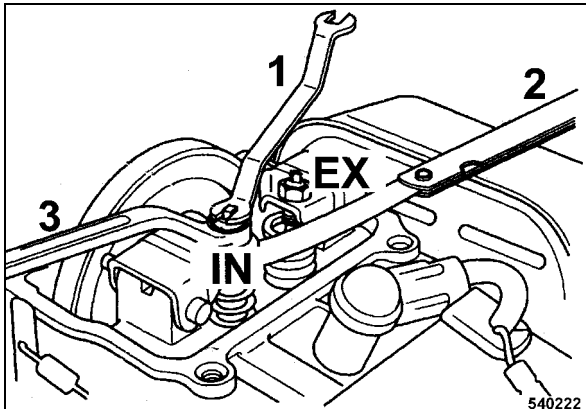

Fig. 47
- Measure the valve clearance between valve adjustment screw and valve with a feeler gauge 2 (Fig. 47).